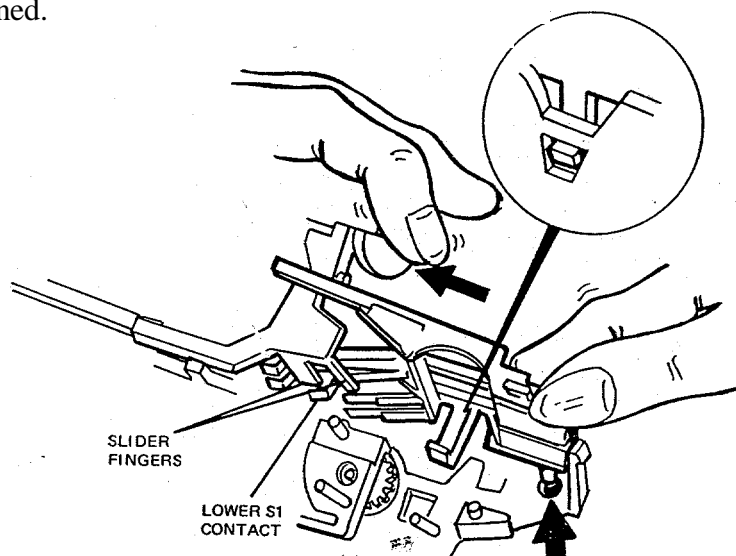

Fig. 46 Verifying Slider-Switch contact relationship
56. Push the Slider back and position the Contact Support Block onto the housing (see Fig. 46). Before snapping detents closed, be sure that the lower S1 contact is positioned between the Slider fingers. Snap detents closed and release Slider.